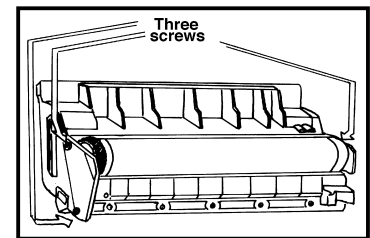
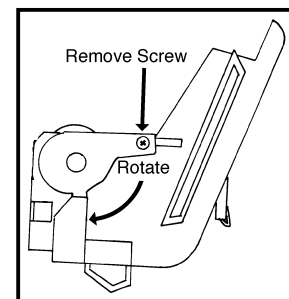

Figure 1
Figure 2
2. Remove the drum axles (3 screws - Fig. 1). Rotate the left axle to unlatch (Fig. 2).